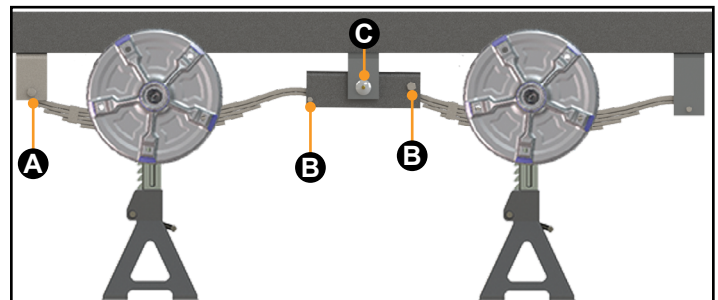

Fig.17
7. Using a floor jack, lift the axles slightly and place the additional properly-rated jack stands under the axles (Fig.17) so that the bolts can be driven out with a hammer.